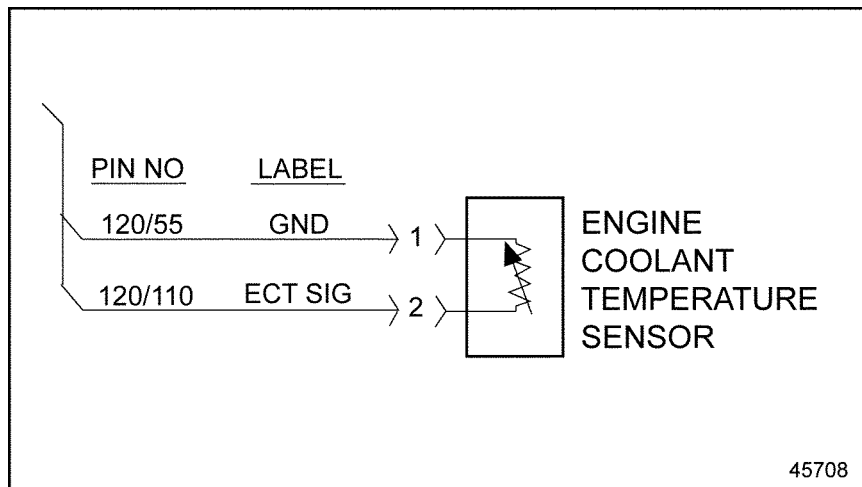

Figure 29-1 Engine Coolant Temperature Sensor Wiring
6. Measure the resistance across pins 1 and 2 of the ECT Sensor. See Figure 29-1.
3. Measure the resistance across pins 1 and 2 of the ECT Sensor harness connector. See Figure 29-1.